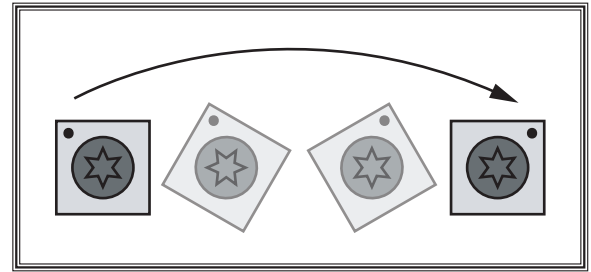

Figure 25. Insert rotating sequence.
6. Rotate insert 90° and install so that a fresh cutting edge faces outward (see Figure 25).